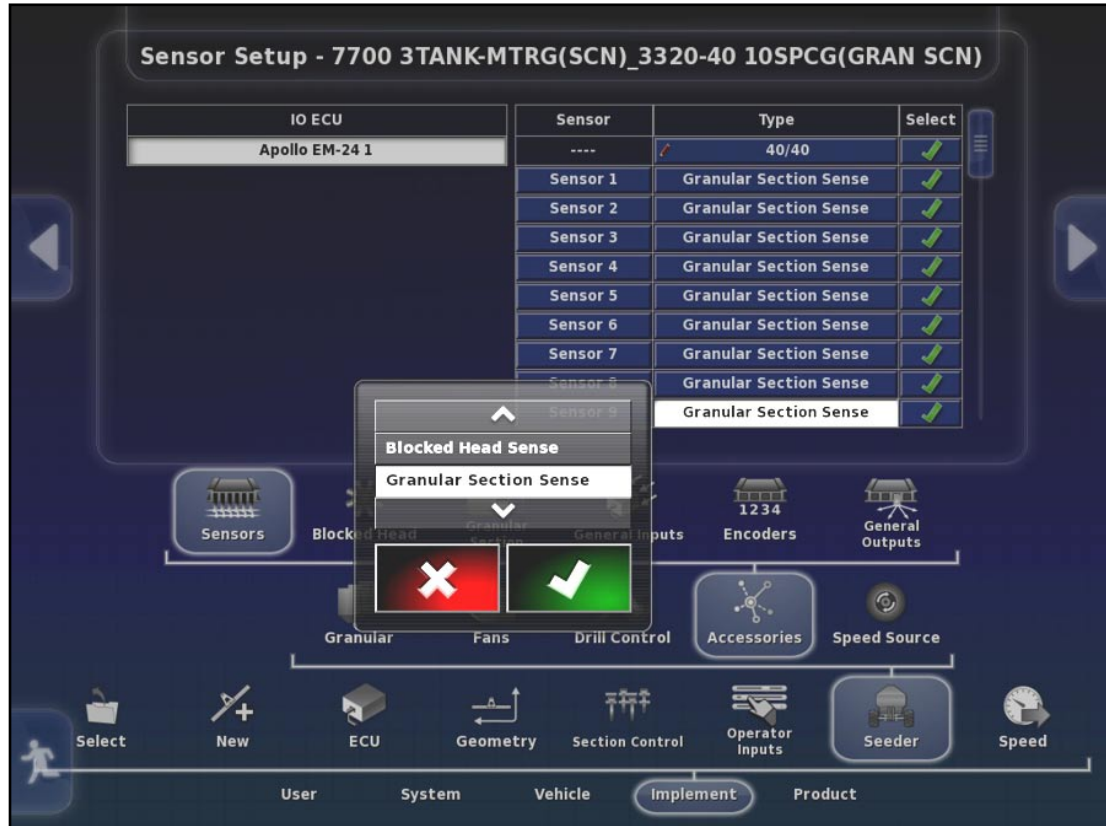

Figure 6.76 - Accessories Menu
1. If Air Seeder has one EM-24 (there will be a tab only for the Apollo EM-24 1), refer to *Figure 6.76*.